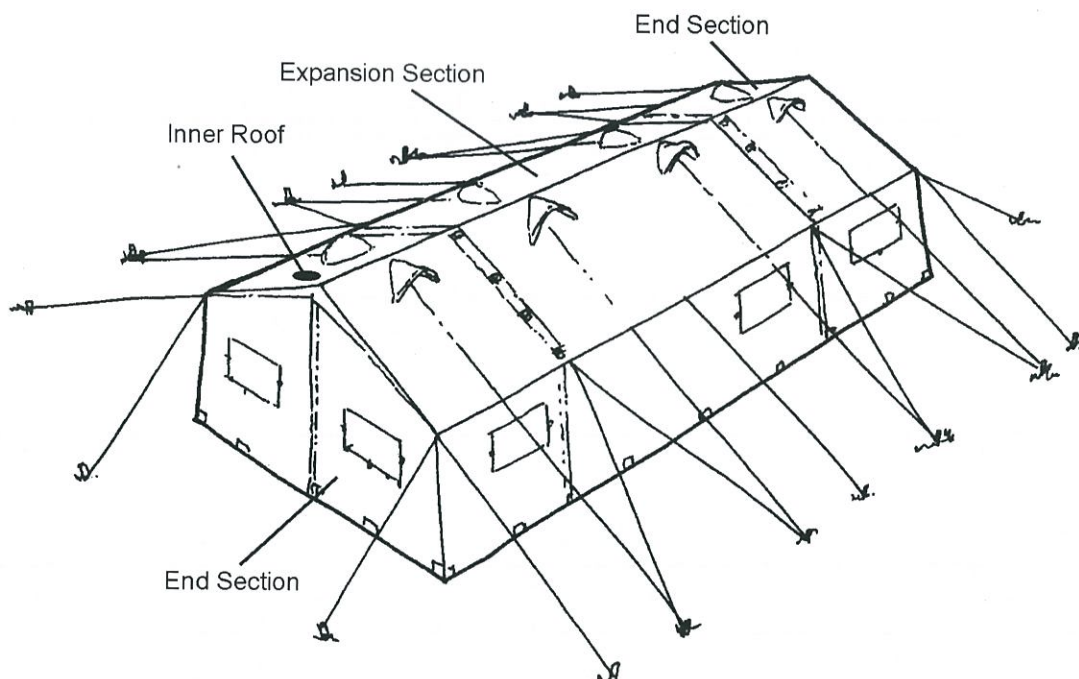

Figure 5-2 — Expandable Tent, 14 ft x 14 ft with Expansion Section
5. The frame is a simple slip joint rigid structure, covered by a rot-proofed lightweight canvas cover that is made up of two identical end sections laced together. The tent length can be extended by the addition of canvas extensions and frame (Fig 5-2).